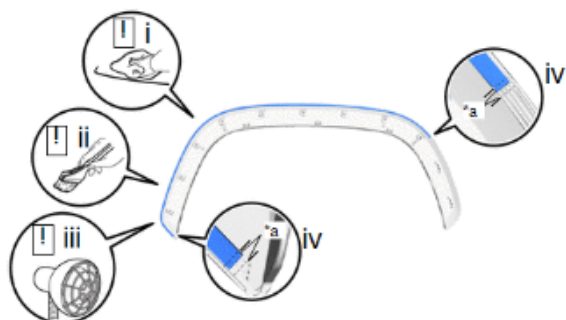

Fig. 6-2
- (i) Install front No. 1 wheel opening extension pad (Fig. 6-2).
- (1) Remove remaining double-sided tape from the front fender wheel opening molding sub-assy.
- (2) Clean the surface of the front fender wheel opening molding sub-assembly (Fig. 6-2).
- (3) Using a heat light, heat the front fender wheel opening molding sub-assembly surface.
- (4) Wipe off any tape adhesive residue with cleaner.
- (5) Apply primer to the front fender wheel opening molding sub-assembly on the installation area of the front No. 1 wheel opening extension pad using a brush or felt.
- (6) Let the primer dry sufficiently
(7) Using a heat light, heat the front fender wheel opening molding sub-assembly LH and a new front No. 1 wheel opening extension pad.
(8) Install the front No. 1 wheel opening extension pad in the position shown in the illustration.